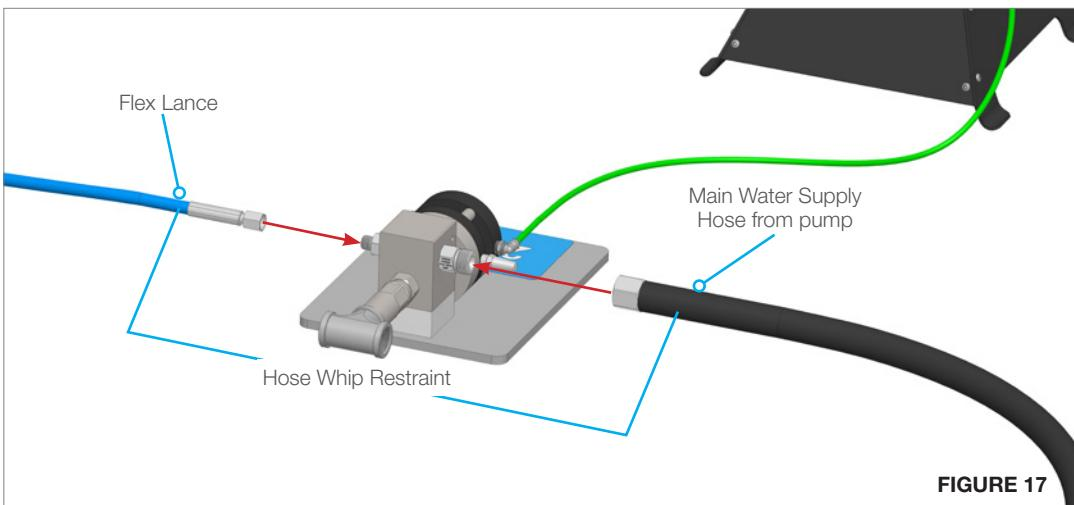

FIGURE 17
27. Fasten the Main Water Supply and Flex Lance Hoses. Be sure to use the appropriate anti-seize, thread lubricant, and/or pipe tape as recommended in the StoneAge Tool Fittings and Accessories Catalog. (**Figure 17**)